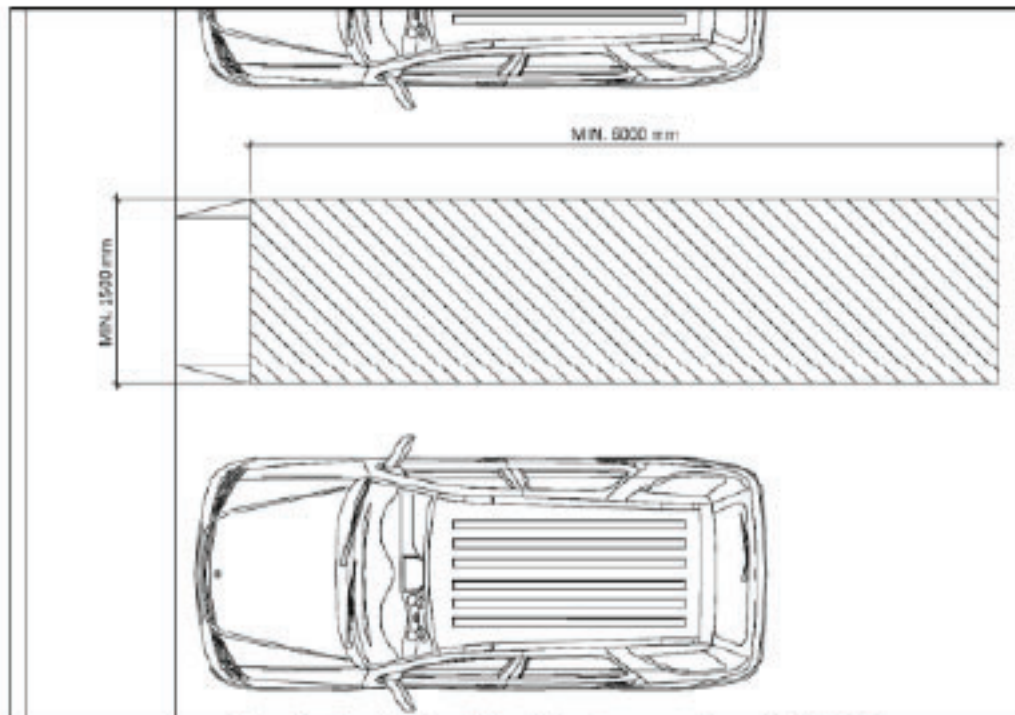

Figure 8 – Barrier-Free Path of Travel Increased Area (NBC & CSA)
- an access aisle not less than 1500 mm wide and 6000 mm long adjacent and parallel to the pickup space (see Figure 8),